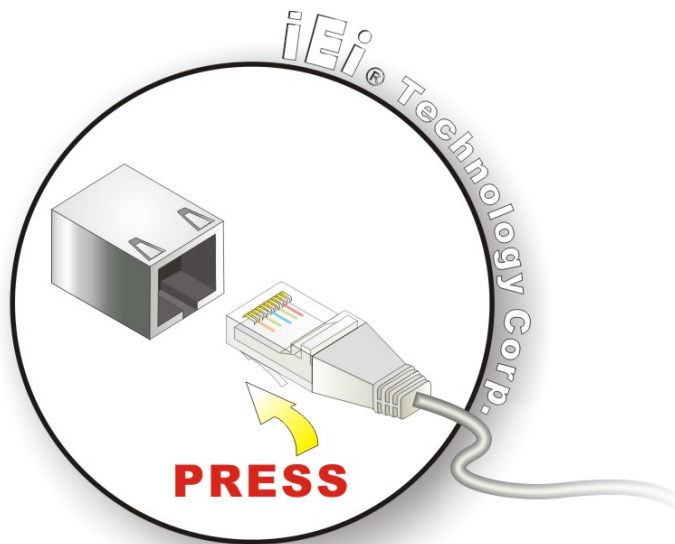

Figure 4-17: LAN Connection
Step 2: **Align the connectors.** Align the RJ-45 connector on the LAN cable with the RJ-45 connector on the WAFER-CV-D25502/N26002. See **Figure 4-17**.